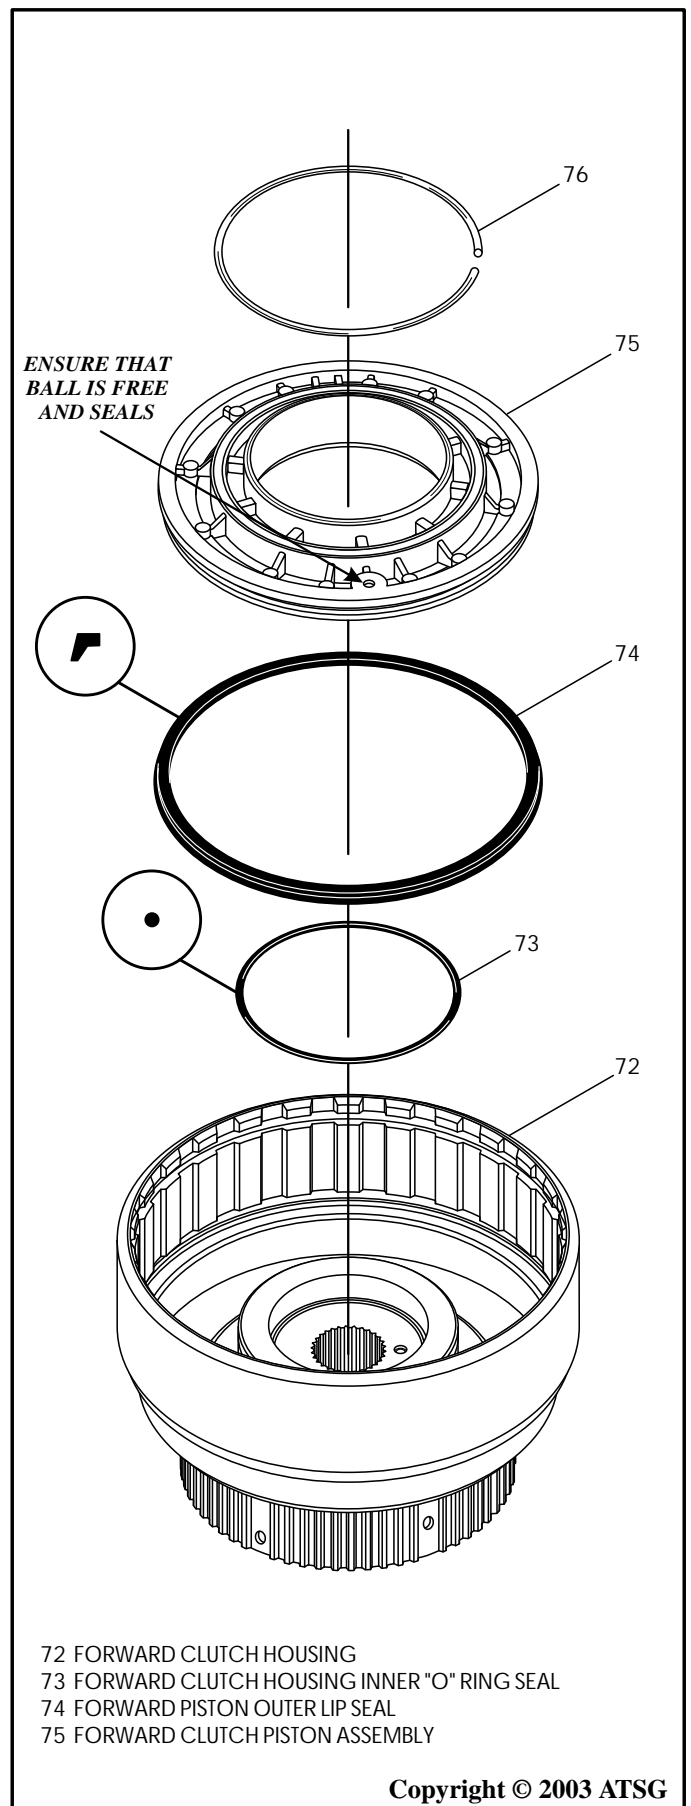

Figure 104
Note: Ensure that the air bleed ball in the forward clutch piston is free and operational (See Figure 104).
6. Turn forward clutch housing over, as shown in Figure 104, and install forward clutch piston inner "O" ring seal into drum (See Figure 104).
7. Install forward clutch piston outer lip seal into groove in piston, with lip facing the direction shown in Figure 104.
8. Lubricate both seals with a small amount of Trans-Jel®, and install piston into the forward clutch housing with a twisting motion, using care not to damage seals (See Figure 104).
9. Install the forward clutch piston apply ring into groove on top of piston (See Figure 104).